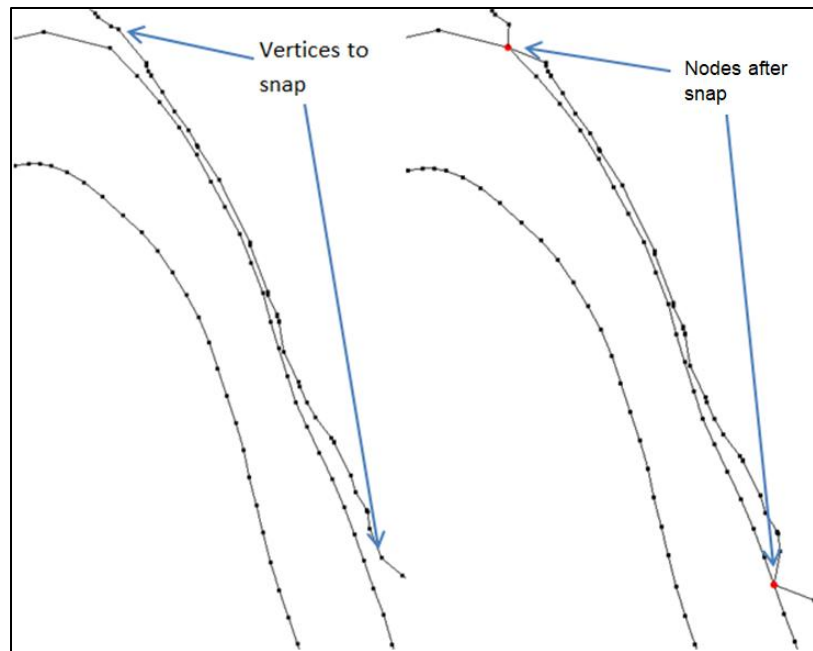

Figure 5 Snapping vertices from domain boundary to channel
1. **Zoom**  into one of the locations on the left floodplain where the channel approaches the domain boundary as shown in Figure 5.
2. Using the **Select Feature Object**  tool, select a vertex from the domain boundary (see Figure 5).